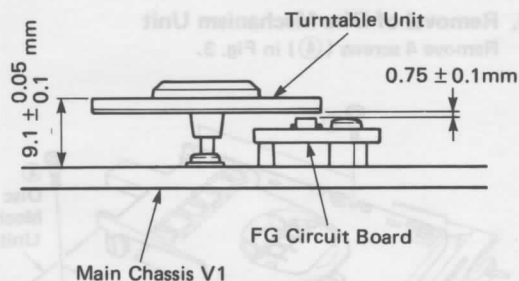

Fig. 11
- g. Check that the disc table height is as specified in Fig. 11.